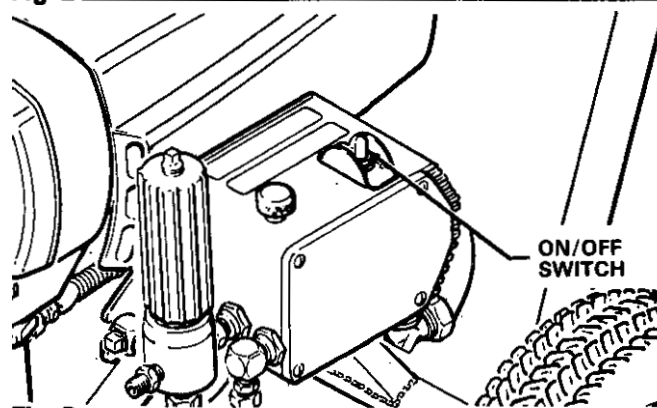

Fig 3
- Be sure the ON/OFF switch is OFF. Refer **to** Fig 3. Then plug the cord into a grounded electrical outlet at least **6 m (20 ft)** away from the spray area.